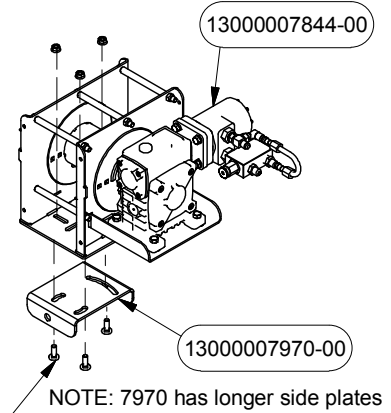

Figure 4
1. Attach Hydraulic Winch (13000007844-00) to Winch Top Mount Bracket (13000007970-00) (longer side plates) using 3 Carriage Bolts (13070906016SS) and 3 nuts (13073100006) as shown in Figure 4